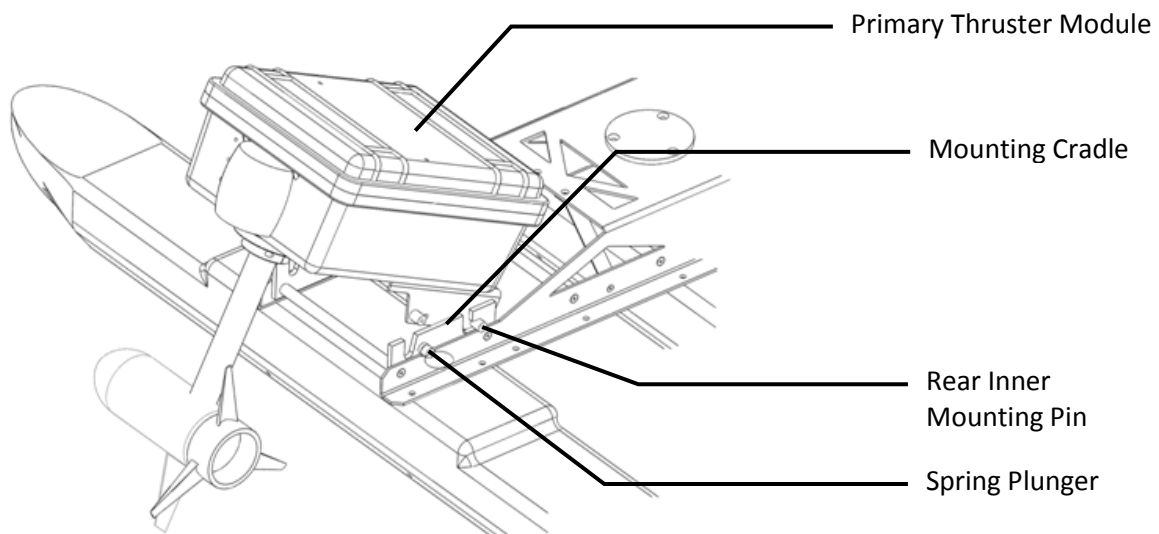

Figure 9: Mounting Thruster Modules
4. Position primary thruster module on left side of main frame, such that inner mounting pins are seated in L-shaped mounting cradle grooves, as shown in Figure 9.